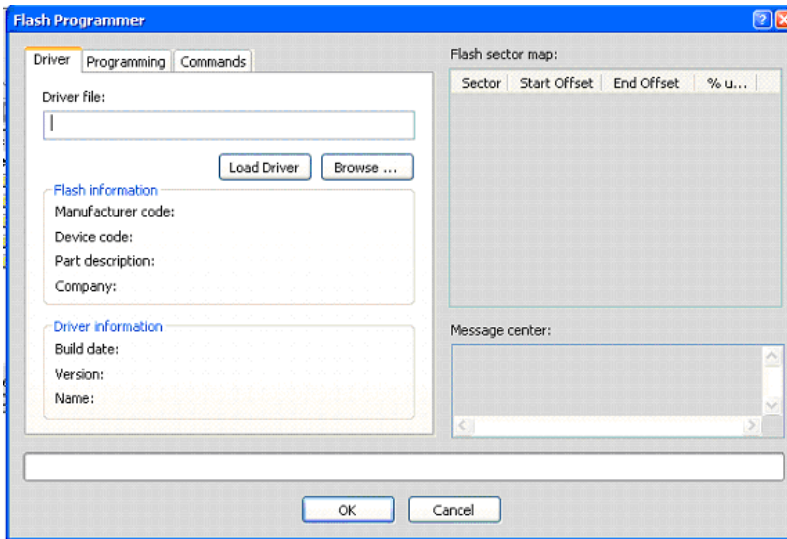

Figure 3-7. Flash Programmer Dialog box – Driver Tab
1. Select **Flash Programmer** from the **Tools** menu. The Flash Programmer dialog box (Figure 3-7) appears on the screen.